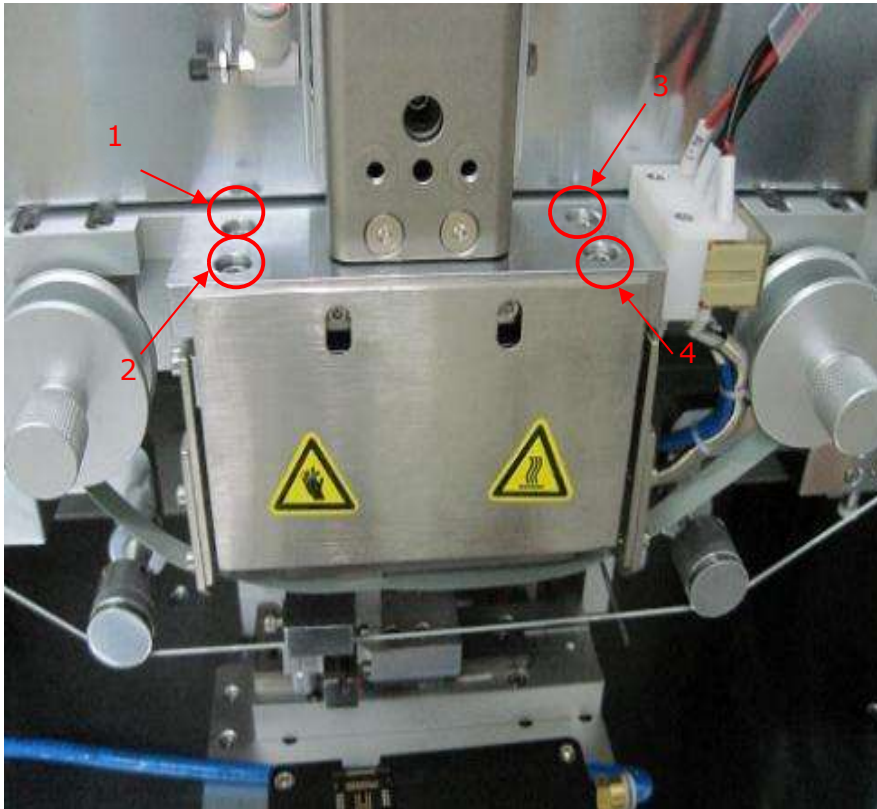
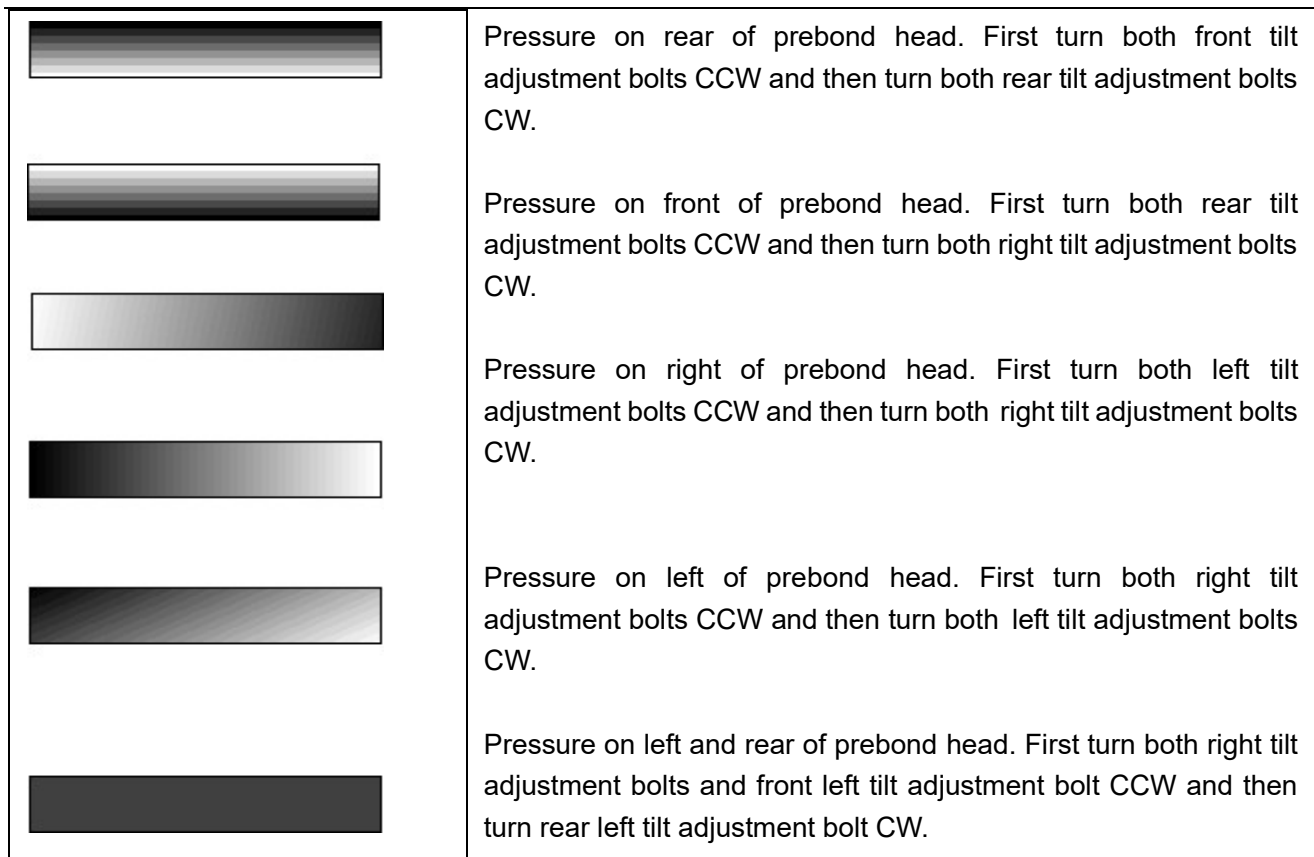

Figure 5.3
Figure 5.4
- 5.3 Inspect the red pressure mark on the film. It should be an even color and have the same shape as the prebond head. If not, adjust prebond head flatness by loosening and tightening the four coplanarity bolts shown in figure 5.3 as directed in figure 5.4.